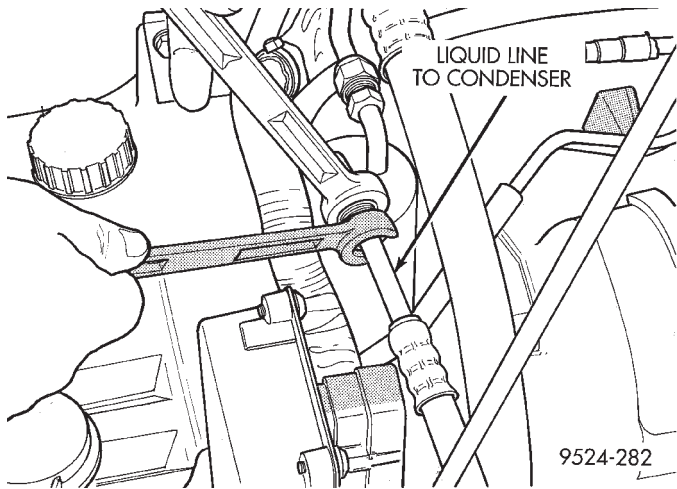

Fig. 52 Liquid Line From Condenser
- (1) Remove refrigerant from A/C system using a refrigerant recovery machine.
- (2) Remove liquid line at filter/drier from condenser (Fig. 52).